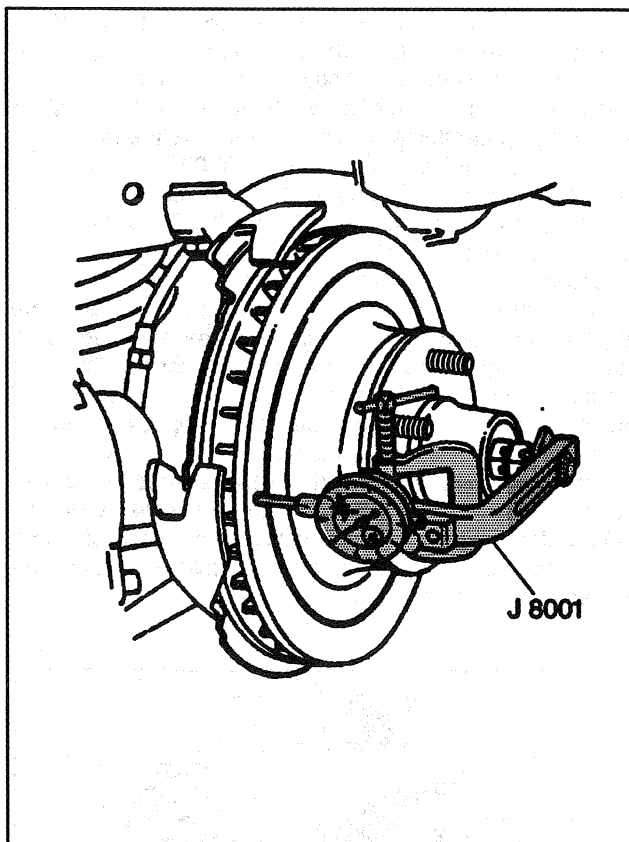

Figure 3—Inspecting for Lateral Runout
2. Fasten a dial indicator to the steering knuckle so the indicator button contacts the rotor surface about 13 mm (0.5 inch) from the outer edge (Figure 3).